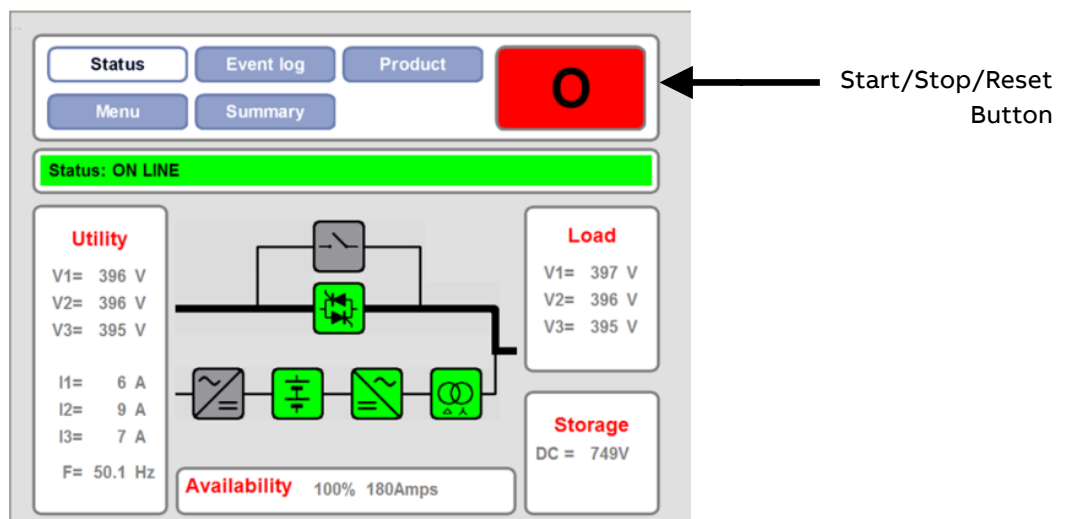

Figure 8-1: GDM Status Page
The Start (I) / Stop (O) /Reset button in the Navigation & Control Panel allows GDM control of the PCS100 UPS-I. When the PCS100 UPS-I is stopped (Bypass) a green Start (I) button will show, and when running (RUN) a red Stop (O) button will show. Pressing the Start (I)/ Stop (O)/ Reset button followed by YES in the following confirmation screen will cause that action to be taken. Figure 8-1: GDM Status Page shows the status page when the PCS100 UPS-I is running.